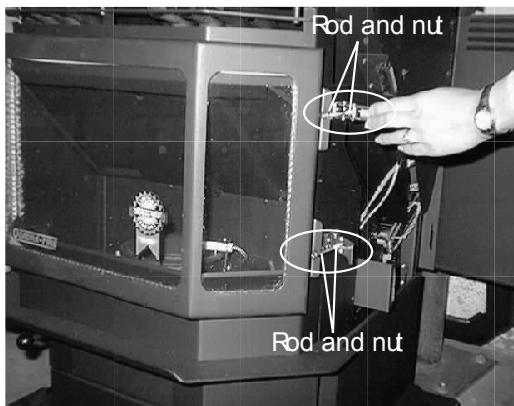

Figure 22.2
3. Latch must close tightly enough to ensure an airtight seal between the door and the body of the appliance. To increase tension on the latch, turn the rod clockwise a few turns, then attempt to close the latch, until it is snug. Do not overtighten; you should be able to close the latch with your hand. **Figure 22.2**.